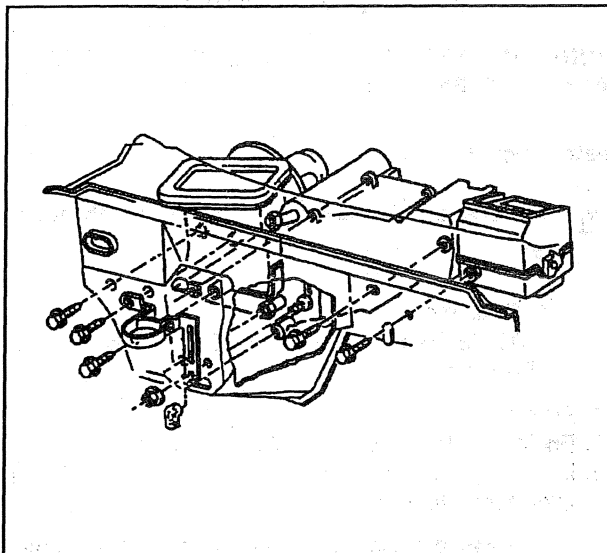

Figure 11—Heater Case (2 of 2)
13. Four screws on the engine side of the cowl holding the heater case to the cowl (figure 11).
14. Two nuts on the engine side of the cowl holding the heater case to the cowl (figure 11).